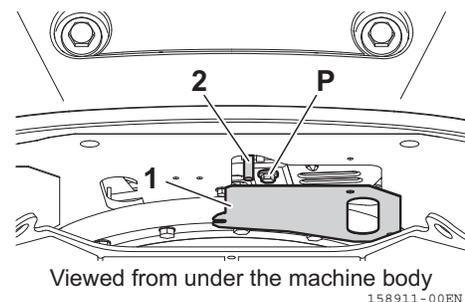

Fig. 8-47
1. Swing the upperstructure so that the drain plug (Fig. 8-47, P) at the bottom of the engine will be positioned in the middle of the right and left crawlers.
2. Remove the cover (Fig. 8-47, 1) at the bottom of the machine body, and place the container for waste oil under the drain plug (Fig. 8-47, P) and hose (Fig. 8-47, 2).
3. Slowly remove the drain plug (Fig. 8-47, P) using a tool with a width across flats of 19 mm so that the oil will not splash your body, and drain the waste oil.
4. Reinstall the drain plug (Fig. 8-47, P).
10. Check for oil leakage, then install the cover (Fig. 8-47, 1) at the bottom of the machine body and close the rear hood.